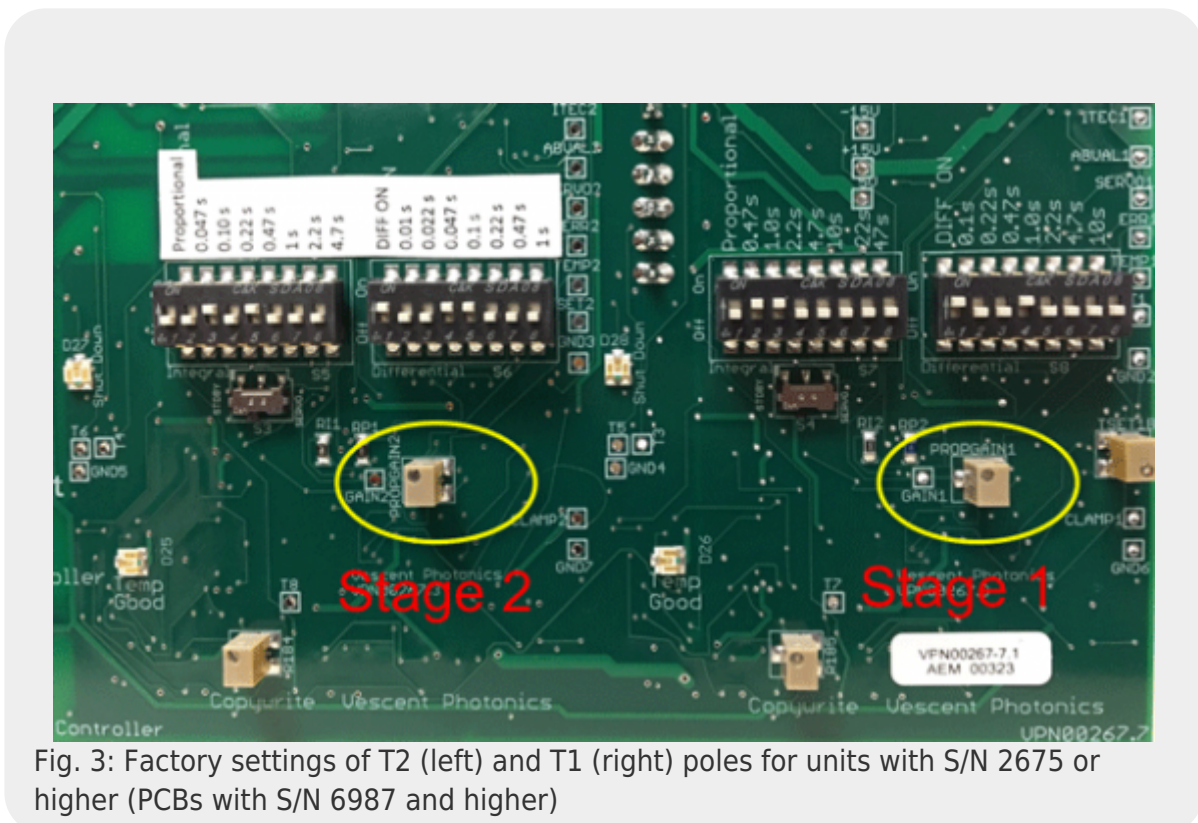

Fig. 3: Factory settings of T2 (left) and T1 (right) poles for units with S/N 2675 or higher (PCBs with S/N 6987 and higher)
1. Set the dip switches to the configuration shown in table 3 and table 4 and figure 3.